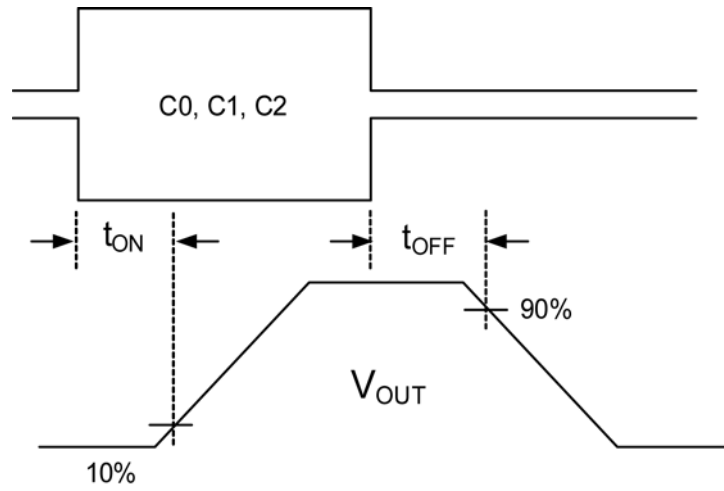

Figure 1. Turn-On and Turn-Off Delay
5.  $R_L = 10\Omega$ ,  $C_L = 1\mu\text{F}$ , See Figures 1, 2.
8.  $R_L = 100\Omega$ ,  $C_L = 0.1\mu\text{F}$ , See Figures 1, 2